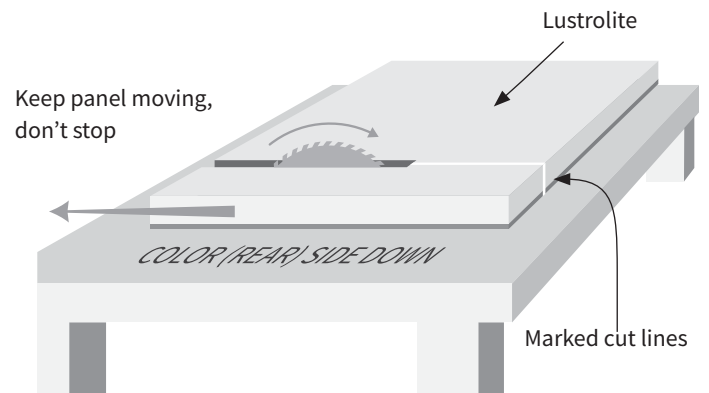

Figure 8: Cutting with Table Saw
- If using a table saw, keep Lustrolite moving through the blade (Figure 8)